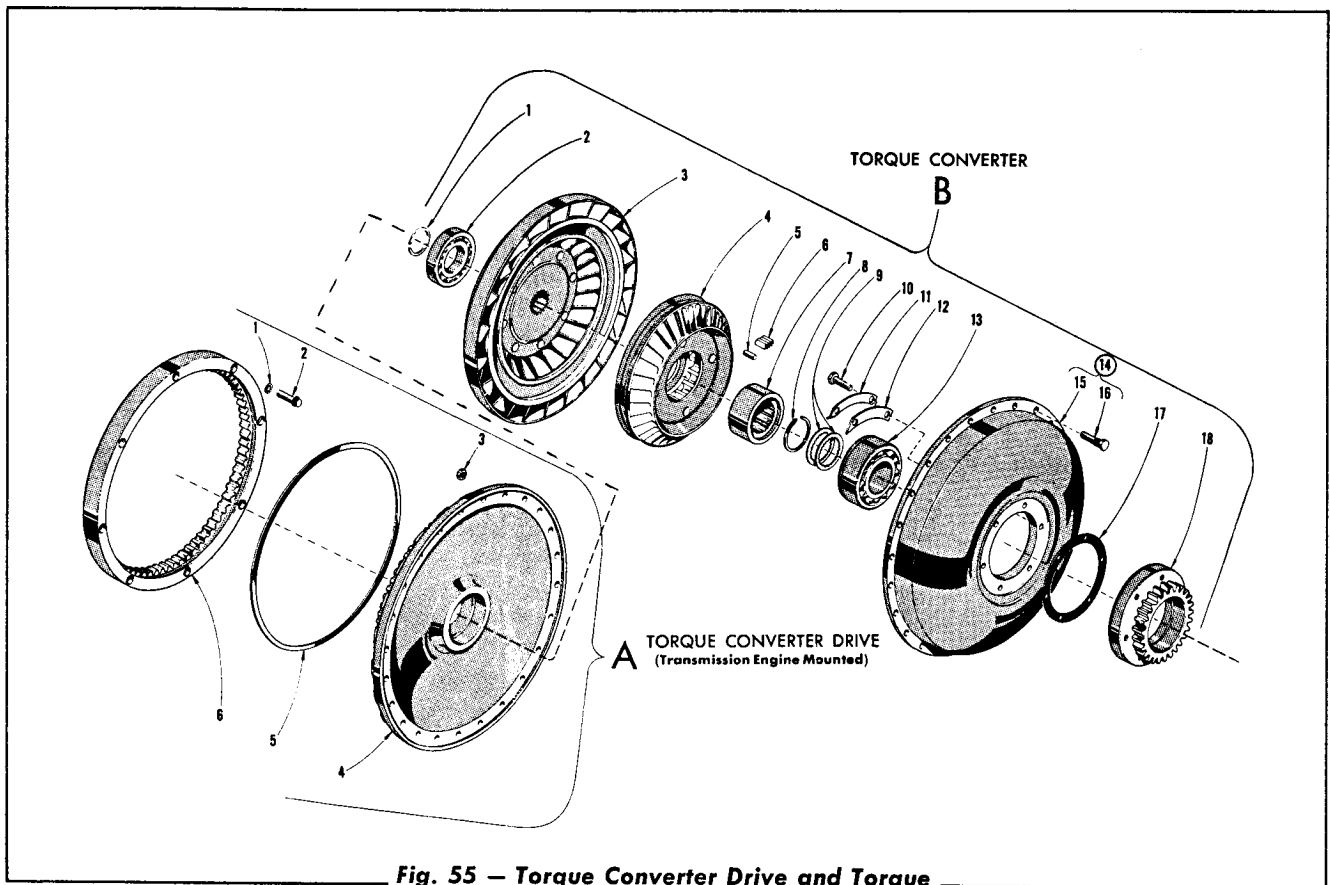
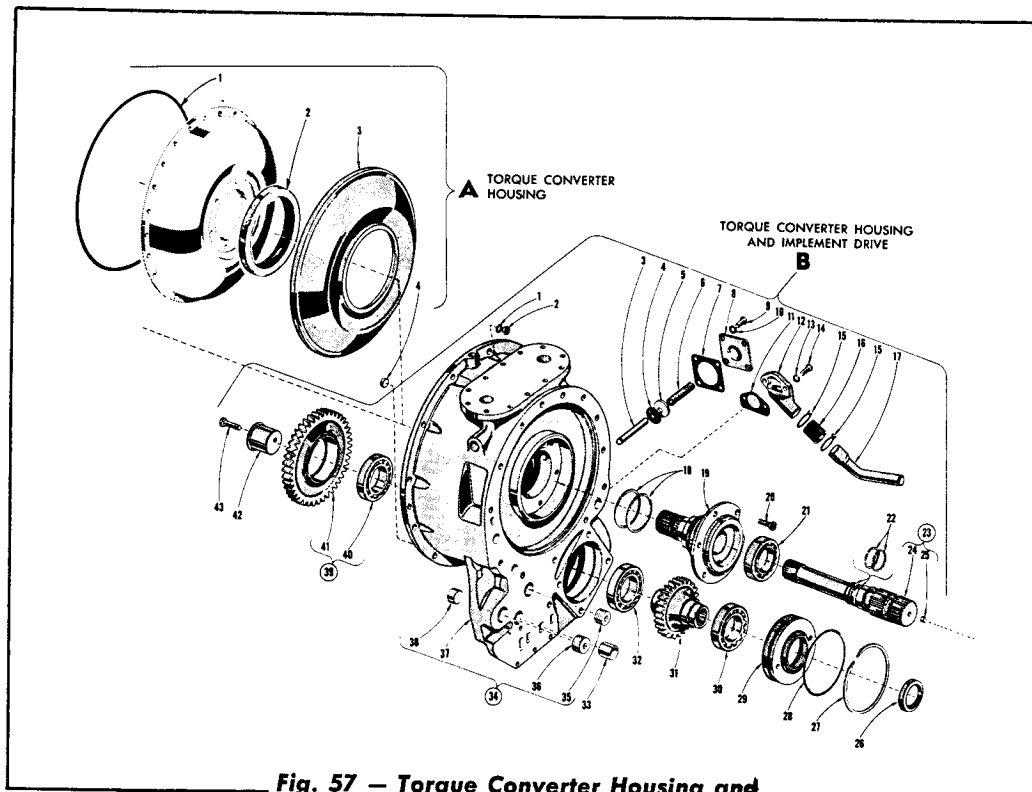
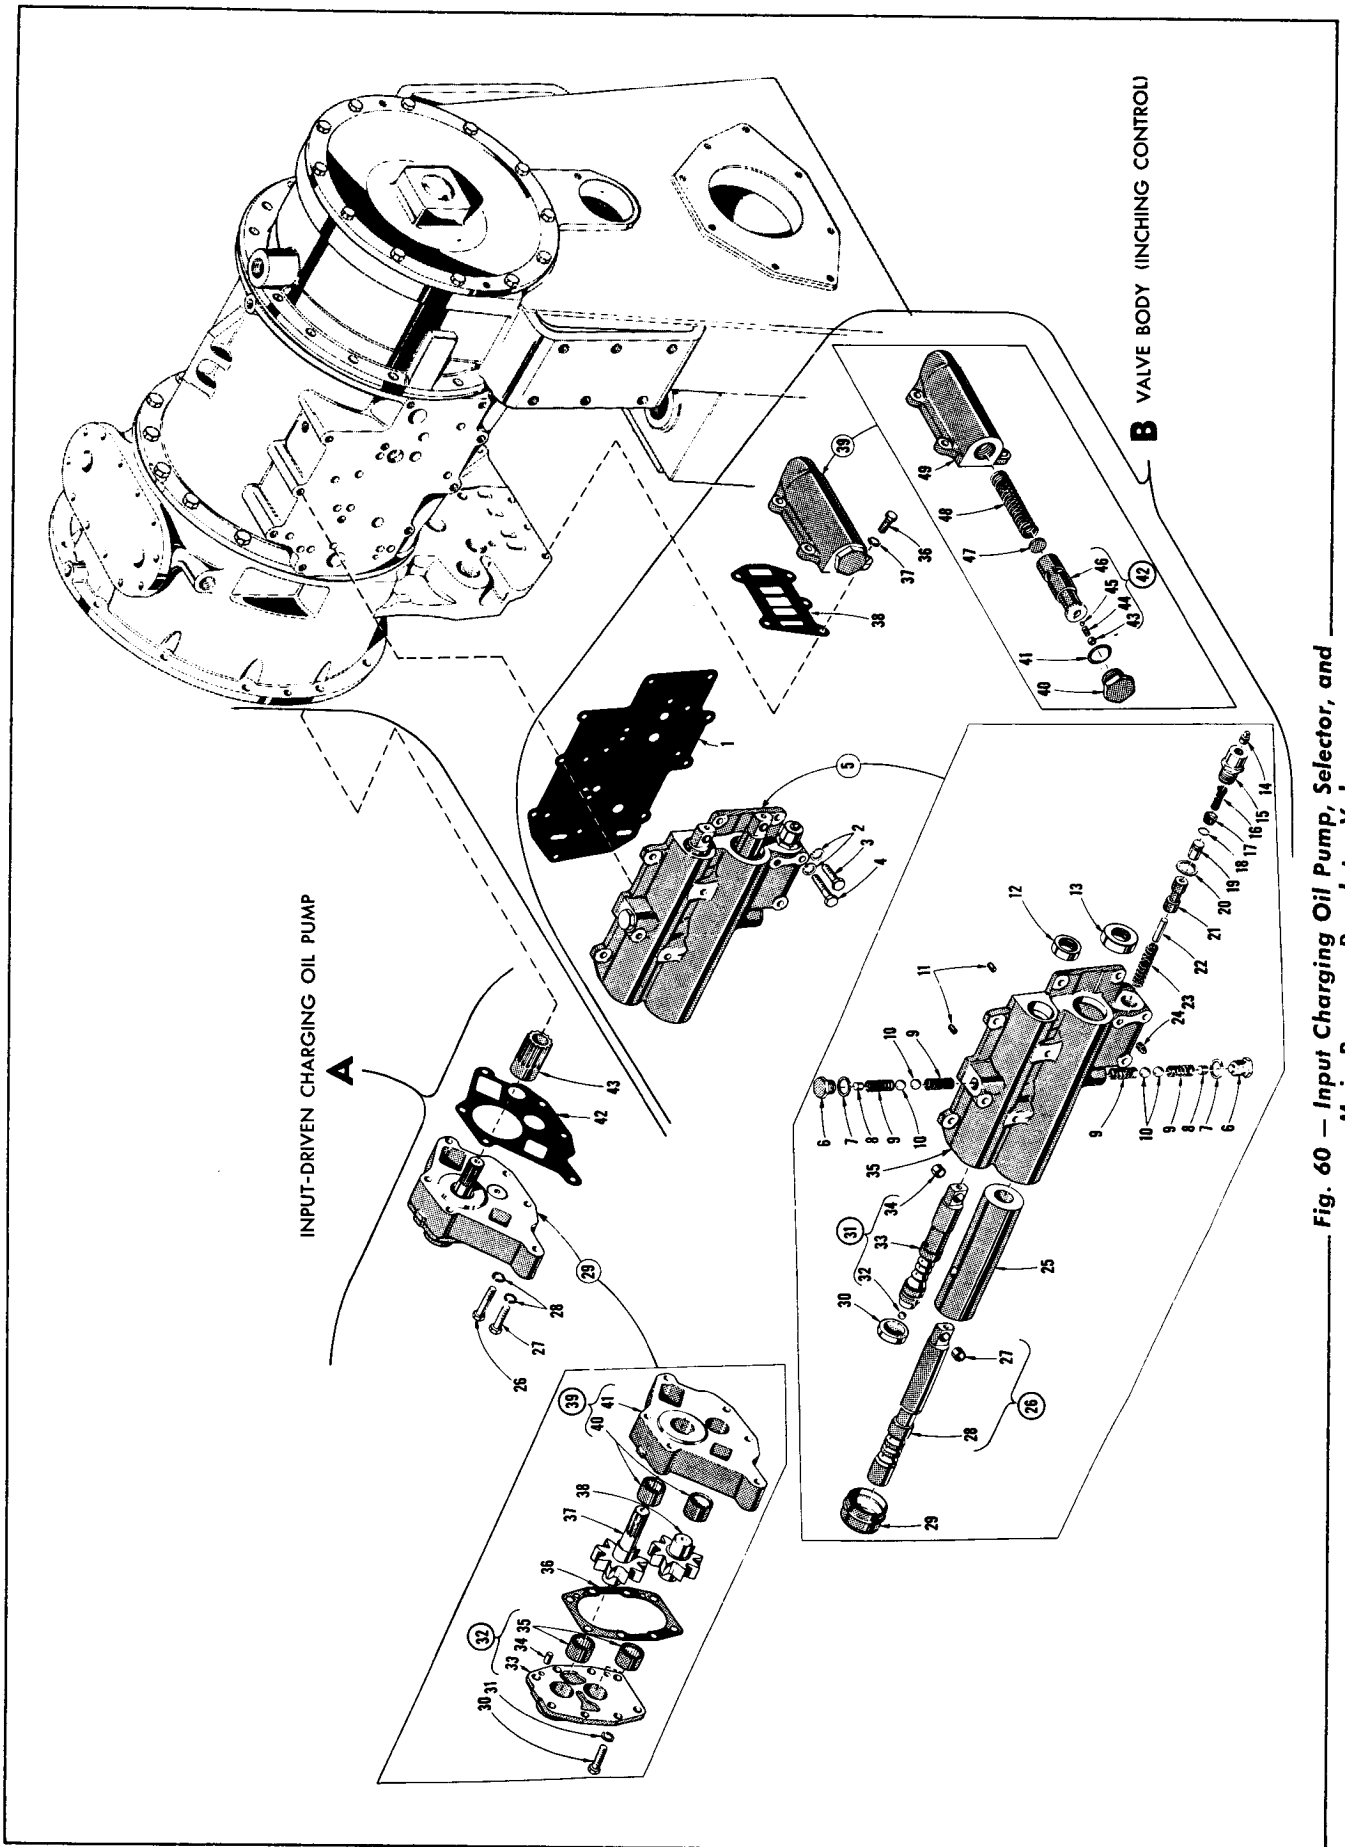
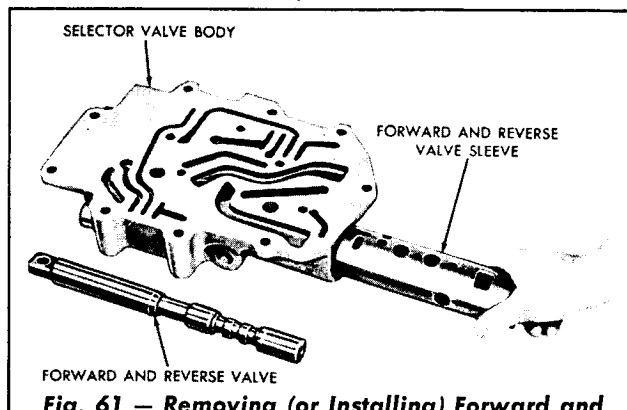

Fig. 55 — Torque Converter Drive and Torque Converter Assemblies
Fig. 57 — Torque Converter Housing and Implement Drive Assembly — Legend
Fig. 60 — Input Charging Oil Pump, Selector, and Main Pressure Regulator Valves
Fig. 61 — Removing (or Installing) Forward and Reverse Valve Sleeve
1. Disassembly (Fig. 55-A)
- a. Remove the seal ring from the converter pump cover (4).
- b. Remove the self-locking nuts (3) from the converter pump cover (4) and remove the cover from the transmission.
3. Assembly (Fig. 55-A)
- a. Install the converter pump cover (4) onto the transmission and secure it with the self-locking nuts (3).
- b. Install the seal ring (5) onto the converter pump.
1. Disassembly (Fig. 55-B)
- a. Remove the freewheel rollers (5) and the roller springs (6) from the stator (4).
- b. Remove the bearing (2) from the turbine (3).
- Inspect the roller ramps (Fig. 55) on the stator for wear pits and scores.
- Inspect the rollers (5) for nicks, burrs, ex-
3. Assembly (Fig. 55)
- Grease each of the stator cam ramps with oil soluble grease, and install the ten free-wheel rollers (5) in the shallow part of the ramp.
- Install the ten freewheel springs (6) into the deep part of the ramp, being sure that the spring is all the way back.
- Install the bearing (2) onto the turbine (3). Seat the bearing against the shoulder on the turbine hub.
1. Disassembly (Fig. 57)
Refer to Topic 4 for cleaning and inspection. Refer to Fig. 57 for wear limits.
3. Assembly (Fig. 57)
2. Assembly (Fig. 57)
- a. Coat the outer diameter of a new oil seal (A-2) with Permatex and install it into a new diaphragm (3). Coat the outer diameter of the diaphragm with Permatex.
- b. Position the torque converter housing (B-37) on the work table with the rear side up. Install the seal and diaphragm assembly into the housing. Place a soft hammer on the shoulder near the outer diameter of the diaphragm (3) and tap on the hammer to seat the diaphragm in the housing.
1. Disassembly (Fig. 60)
- a. Remove the capscrews (30) and lockwashers (31) from the oil pump cover assembly (32) and separate the pump assembly. Remove the gasket (36).
- b. Remove the oil pump drive gear (37) and the oil pump driven gear (38) from the oil pump body (41).
- c. Do not remove the needle bearings (35 and 40) unless replacement is necessary. Press or drive out the bearings (40) to remove them. The bearings (35) will have to be pried out.
Refer to Fig. 60 for wear limits.
3. Assembly (Fig. 60)
- a. If the needle bearings (35 and 40) were removed, install new bearings by pressing on the lettered end. Press the bearings (35) to 0.090" below the split line surface. Press the bearings (40) to 0.090" below the gear sprocket surface.
- b. Install the pump drive gear (37) and the oil pump driven gear (38) into the oil pump body (41). Install the gasket (36) into the oil pump body (41).
- c. Install the oil pump cover assembly (32) onto the oil pump body and secure the assembly with the capscrews (30) and lockwashers (31).